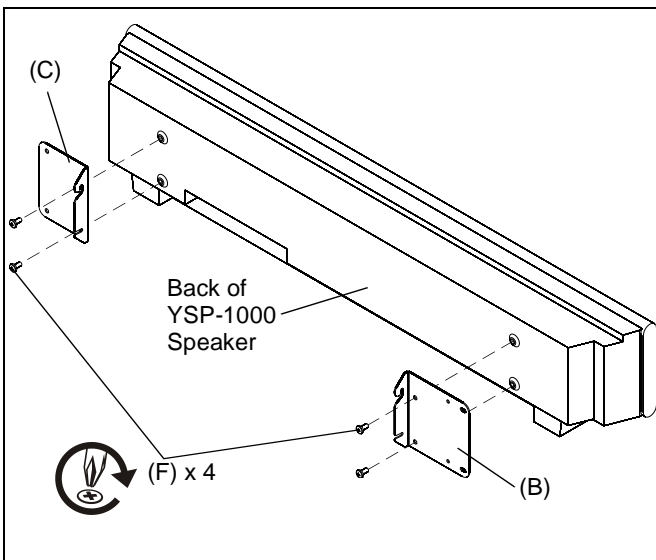

Figure 8
NOTE: Ensure that hook on speaker brackets (B and C) point down and face inside of speaker. (See Figure 8)
1. Attach speaker brackets to left and right side of speaker, using two M6 x 12mm Phillips screws (F) on each bracket. (See Figure 8)